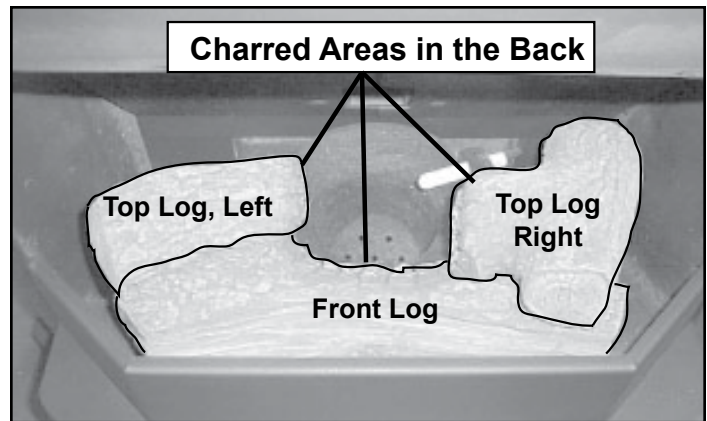

Figure 24.3
2. Set the left and right logs onto the front log, placing the holes in the base of the left and right logs over the locating pins in the front log (**See Figure 24.3**). Ensure that the charred ends are facing the fire pot.